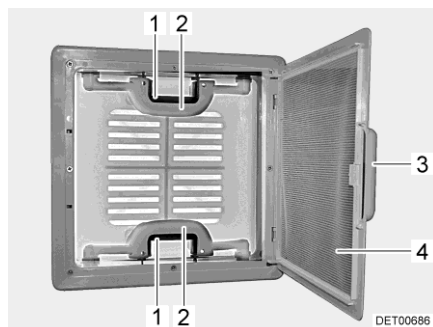

Fig. 27 Skylight with snap latch
- Pull on the handle (Fig. 27,3).
- Fold insect screen (Fig. 27,4) downward.
- Push the snap latch (Fig. 27,1) towards the inside of the skylight. At the same time use the handle (Fig. 27,2) to press the skylight upwards.
- Swing insect screen (Fig. 27,4) upwards until it latches in place.
- Using both handles (Fig. 27,2), pull down the skylight with force until the two snap latches (Fig. 27,1) lock into place.